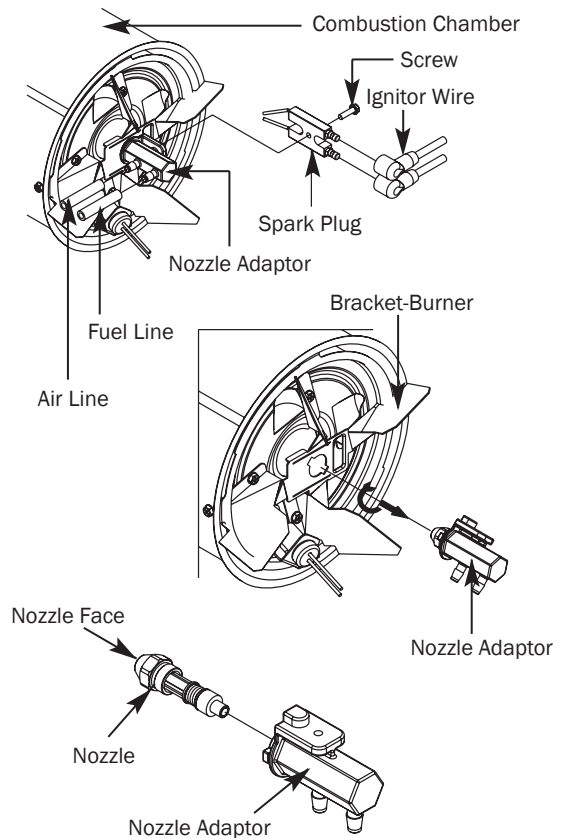

**Figure 16 – Nozzle Replacement For Models CP050EK-CP175FK**
- Turn nozzle adaptor 1/9 turn (40°) to counter clockwise and pull toward motor to remove. (See Figure 16)